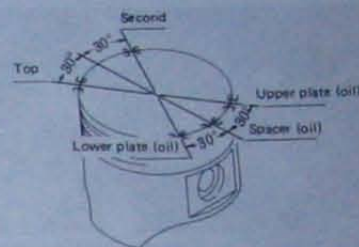

Fig. 2.21 Piston ring end gap spacing (Sec 43)
- 4 With all the rings in position, space the ring end gaps as shown in Fig. 2.21.